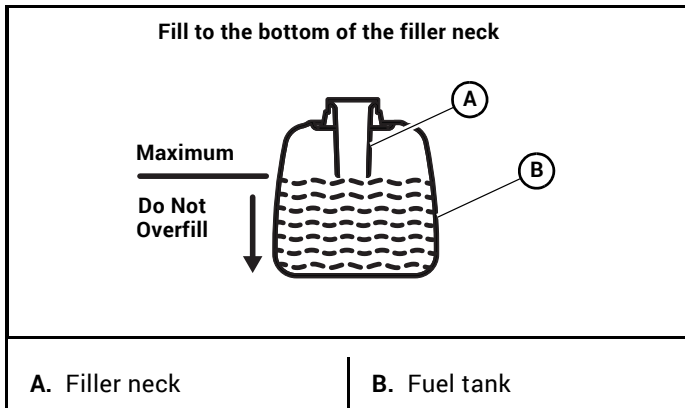

Figure 4-5
**IMPORTANT:** Do not overfill the fuel tanks. The fuel tanks should be filled **no higher than the bottom of the fill neck**. (Figure 4-5) The fuel system is designed to leave room for the fuel to expand with fuel temperature changes.